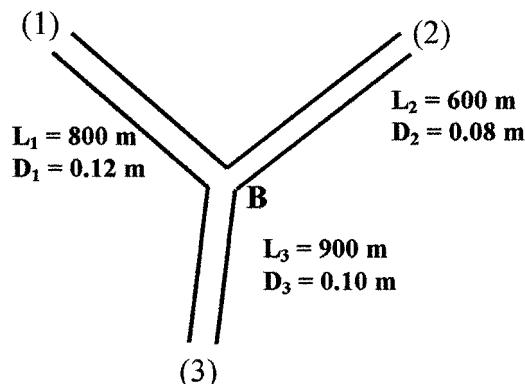

Fig. P6.125
**6.125** Suppose that the three cast-iron pipes in Prob. 6.120 are instead connected to meet smoothly at a point B, as shown in Fig. P6.125. The inlet pressures in each pipe are:  $p_1 = 200 \text{ kPa}$ ;  $p_2 = 160 \text{ kPa}$ ;  $p_3 = 100 \text{ kPa}$ . The fluid is water at  $20^\circ\text{C}$ . Neglect minor losses. Estimate the flow rate in each pipe and whether it is toward or away from point B.
**Solution:** For water take  $\rho = 998 \text{ kg/m}^3$  and  $\mu = 0.001 \text{ kg/m}\cdot\text{s}$ . The pressure at point B must be a known (constant) value which makes the net flow rate equal to zero at junction B. The flow clearly goes from (1) to B, and from B to (3), but we are not sure about pipe (2). For cast iron (Table 6.1),  $\epsilon = 0.26 \text{ mm}$ . Each pipe has a flow rate based upon its pressure drop: